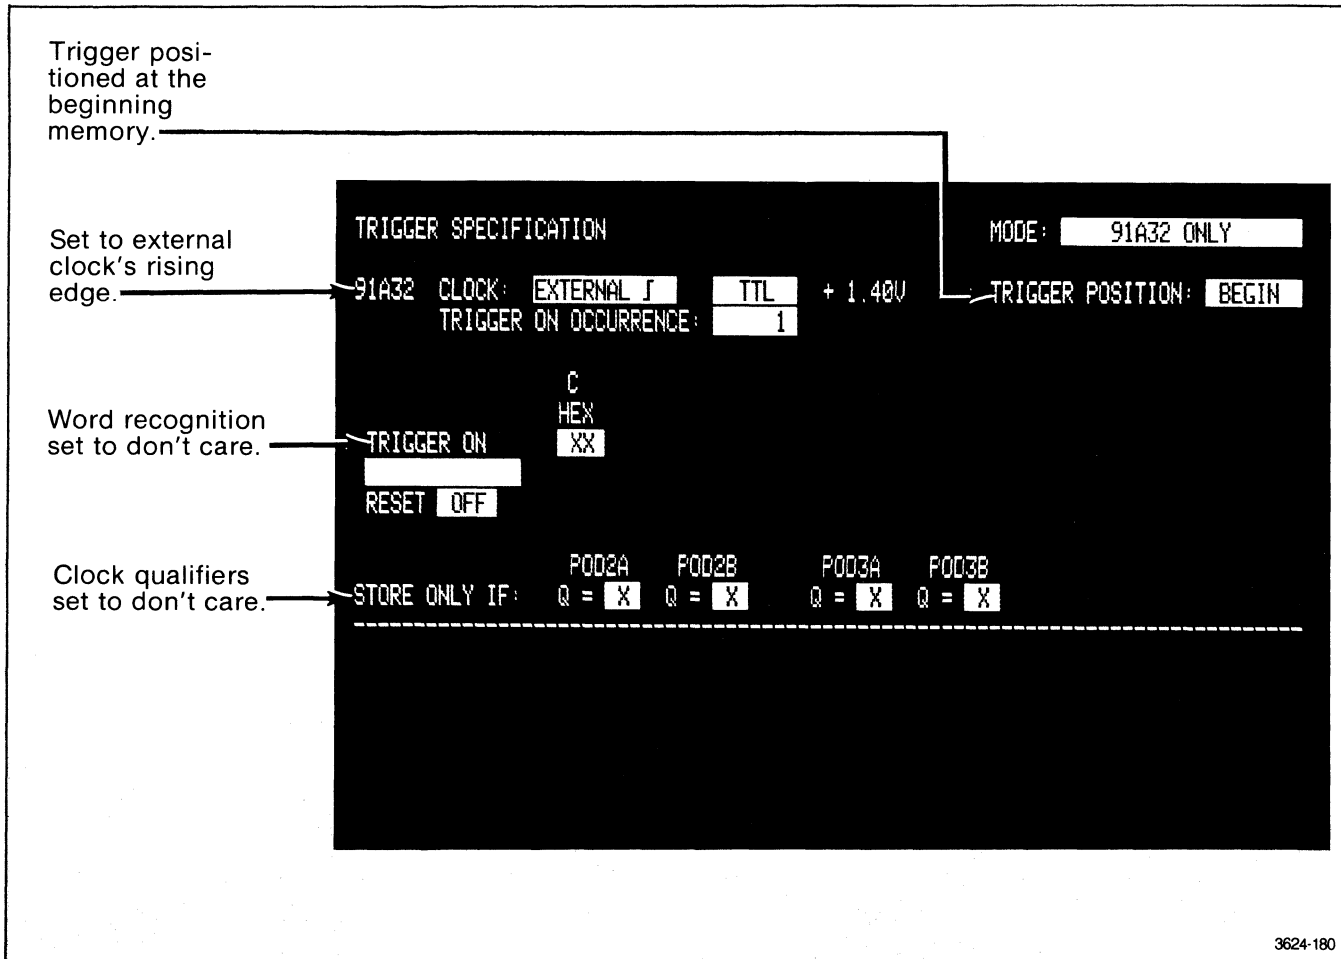
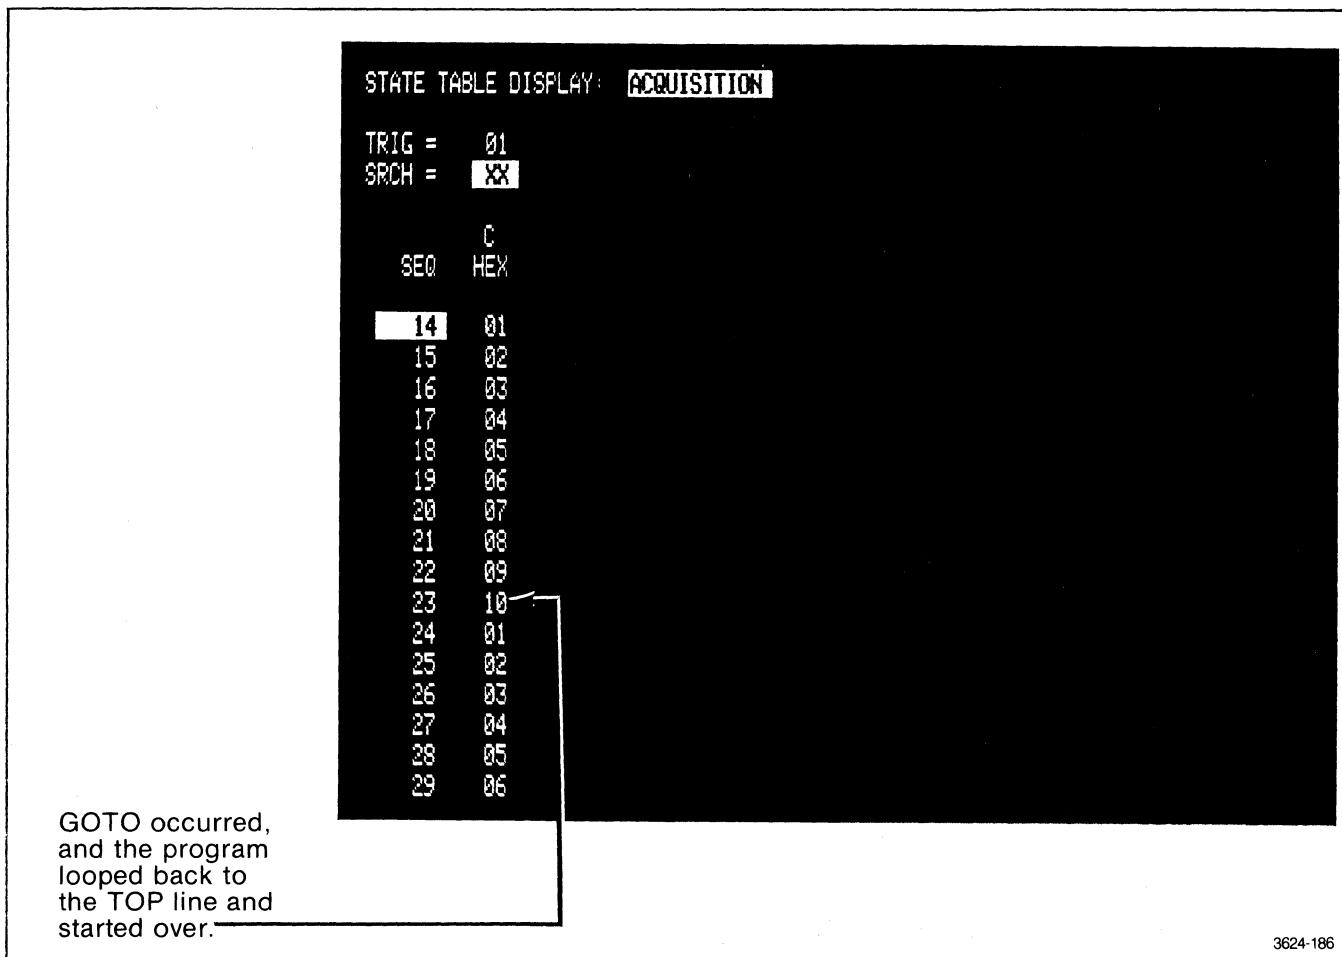

Figure 11-7. Setting up the acquisition external clock.
Figure 11-12. Acquiring the GOTO looping program.
Figure 11-7 illustrates how to set up the acquisition for an external clock. The 91A32 CLOCK field in the Trigger Specification menu is set to EXTERNAL ⌋ (rising edge). Whenever you are acquiring data using the pattern generator's output clock, you should use the rising edge of the signal.
During these examples, reference is made to an internal and an external acquisition clock. The internal acquisition clock is always the DAS internal clock set to 1  $\mu$ s (refer to Figure 11-5). The external clock is always supplied via the pattern generator's clock output signal (refer to Figure 11-7).
**Acquiring the HALT Example Program.** Figure 11-10 illustrates how the HALT example program appears when it is acquired. The first acquisition used the DAS internal clock set at 1  $\mu$ s (see Figure 11-5). The second used the external pattern generator's output clock (see Figure 11-7). For both acquisitions, the START SYSTEM key is used.
**Acquiring the GOTO example program.** Figure 11-12 shows how the GOTO example program appears when it is acquired. In this example, the acquisition module is running from the pattern generator's output clock signal (see Figure 11-7). The START SYSTEM key is used for the acquisition.
**Acquiring the REPEAT and HOLD example program.** Figure 11-14 illustrates two acquisitions of the REPEAT and HOLD example. The first acquisition uses the DAS internal clock set at 1 µs (see Figure 11-5). The second uses the pattern generator's output clock (see Figure 11-7). The START SYSTEM key is used for both acquisitions.